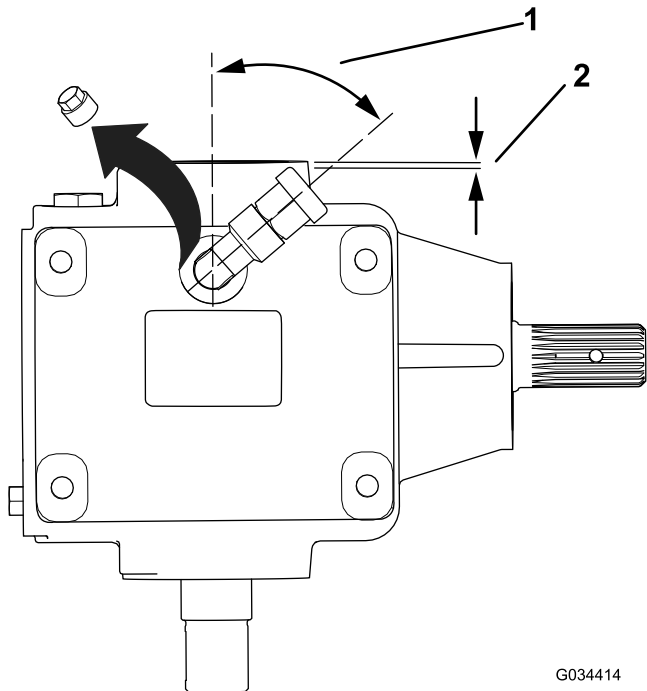

Figure 7
1. Remove the solid plug installed in the gearbox, as shown in Figure 7, and discard the plug.
2. Install the breather; refer to Figure 7 for the appropriate orientation.